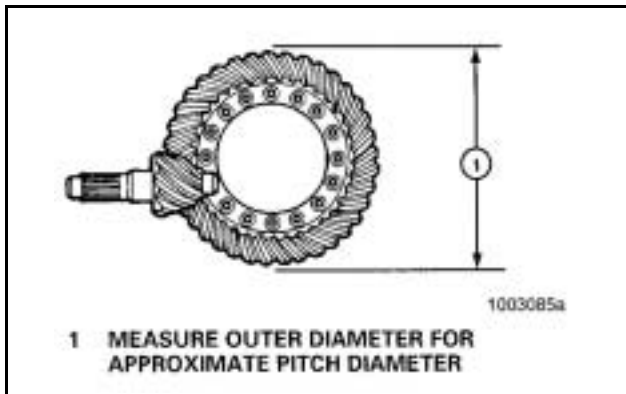

Figure 107
*Measure the outer diameter of ring gear for approximate pitch diameter. **Figure 107.***